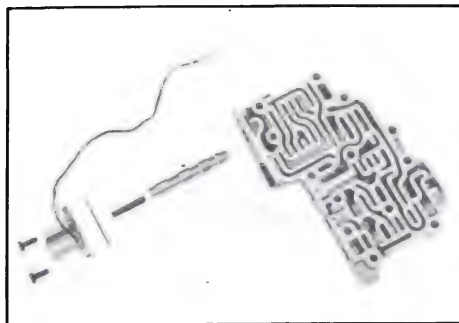

Figure 5-175
4. Install detent valve and spring. Install gasket to solenoid with notch facing bottom of valve body. Install solenoid to valve body using two 7/16" bolts. See Figure 5-175.